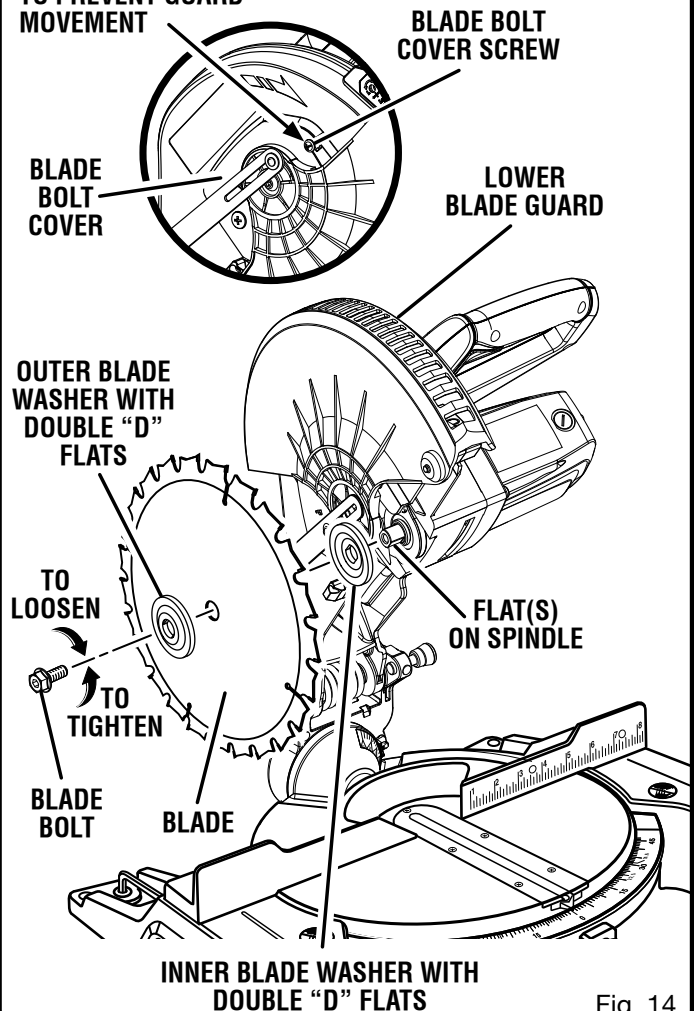

Fig. 14
- Fit saw blade inside lower blade guard and onto spindle. The blade teeth point downward at the front of saw as shown in figure 14.